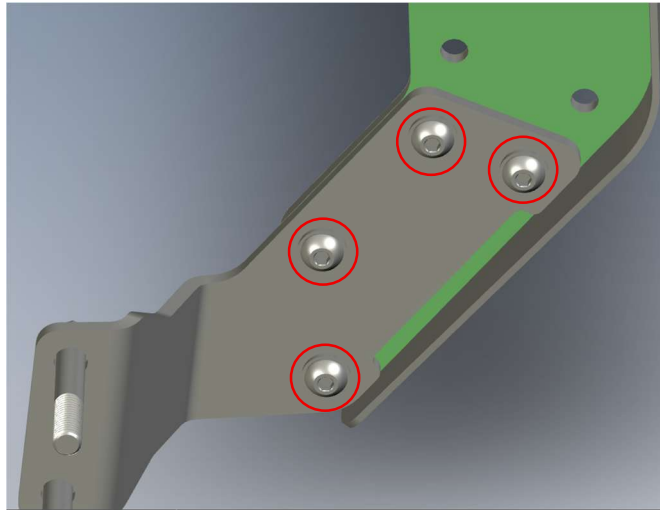

Figure 18
4. Loosely install AEV Lower Weldment utilizing M10 button head screw (6mm hex), M10 washer, and M10 nut provided. See Fig. 18 (CAUTION AROUND BUMPER)